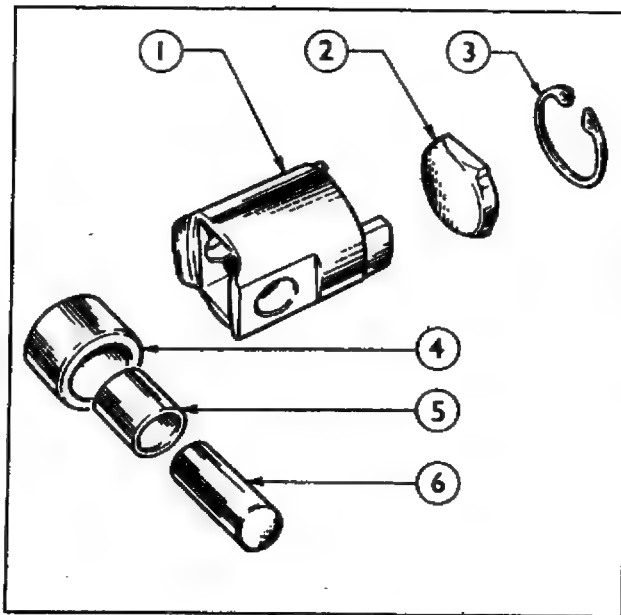

Fig. 21
9. Remove the tappet assemblies from the cambox, keeping them in their respective positions with the pumping elements. If the tappets are to be dismantled push out the roller pin and remove the double rollers. Extract the circlip to enable the phasing spacer to be withdrawn from the tappet body (see Fig. 21).